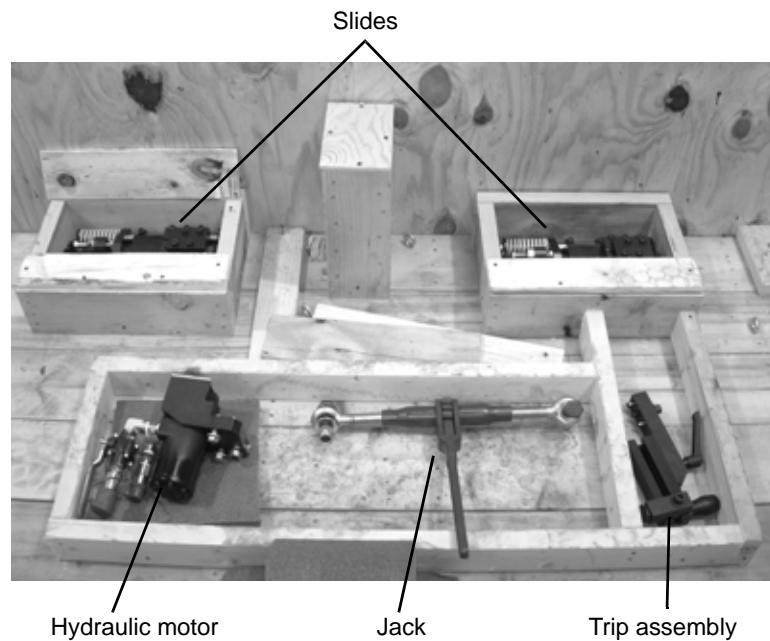

Figure 4-2. Store the smaller components of the machine in the bottom of the storage case.
1. Remove the slides, trip assembly, and hydraulic motor from the machine. Store them in the case as shown in Figure 4-2.